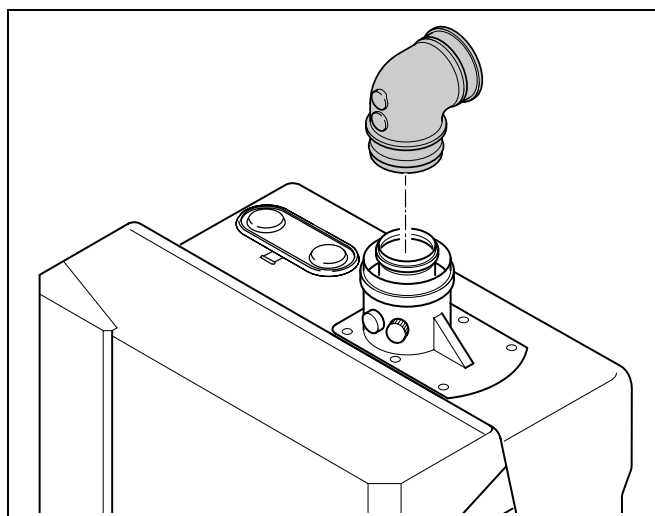

fig. 14 Elbow with flue gas testing point
- Push the assembly through the wall and slide the turret onto the flue connector. Refer to figure 14.